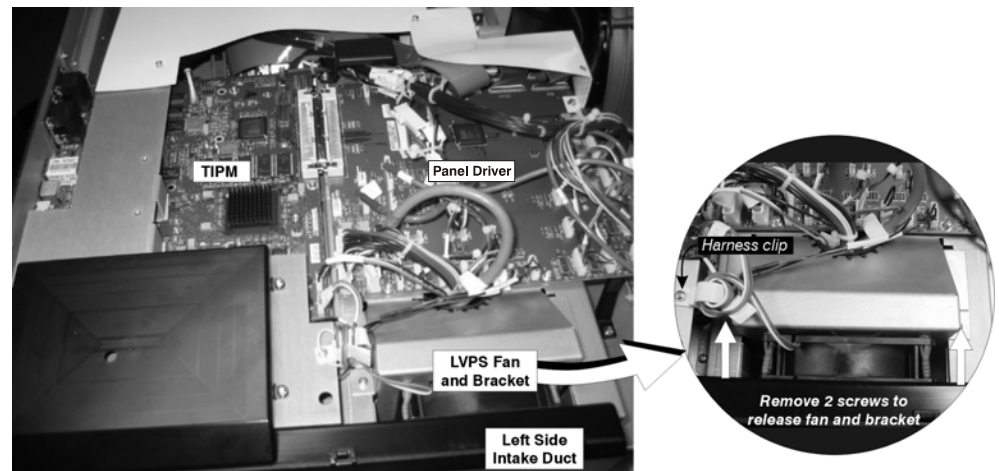

Figure 17. Accessing the LVPS Fan
2. Remove the three (3) screws from the side intake duct.
3. Remove the two (2) screws securing the LVPS fan and bracket. (Figure 17.)